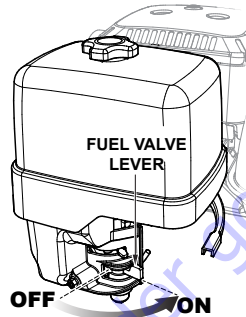

Figure 12. Fuel Shut-Off Lever
- Move the fuel shut-off lever (Figure 12) to the **ON** position.